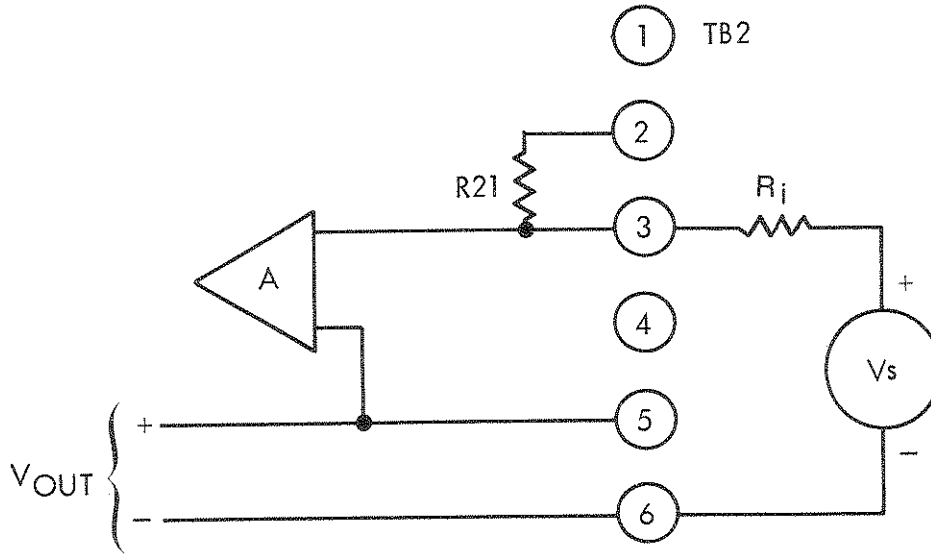

Figure 3-1 Unity Gain
- a. Unity Gain (1V/V) (Figure 3-1)
- 4) Connect the signal programming source between TB2-3 and TB2-6 using a series resistor Ri as shown on Figure 3-1. Select Ri based on the rated maximum voltage of the SRL and 200 ohms per volt (e.g., 60V SRL units will use Ri of 12K). Use a precision 1/2 watt resistor such as the RL 20S type. Observe the proper polarity of signal source (negative) on TB2-6.